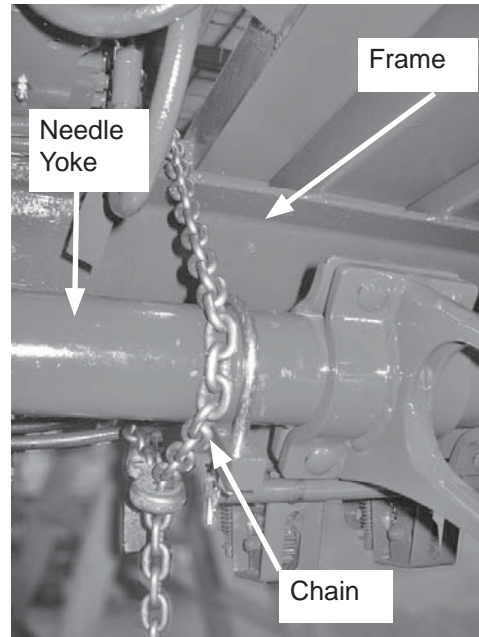

Figure 5-29 Twine Needle Yoke Chained to Frame
7. Connect a 5,000 psi gauge to port (A).
8. To prevent the knotter from moving in reverse, strap a 3/8" chain around the middle of the needle yoke to the frame (see Figure 5-29).